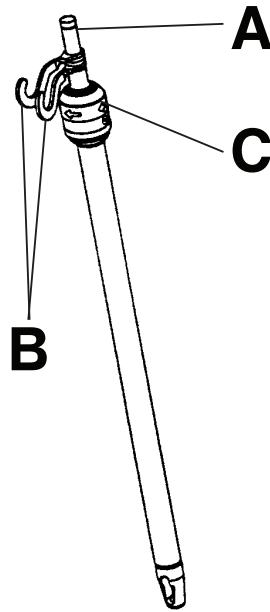

Figure 14 – Two-stage IV pole
2. To raise the height of the pole, pull up on the telescoping portion (A) of the pole until it locks into place at its fully raised position (Figure 14).
3. Rotate the IV hangers (B) to the desired position and hang the IV bags.
4. To lower the pole, turn the latch (C) clockwise until the telescoping portion (A) lowers into the bottom tube.